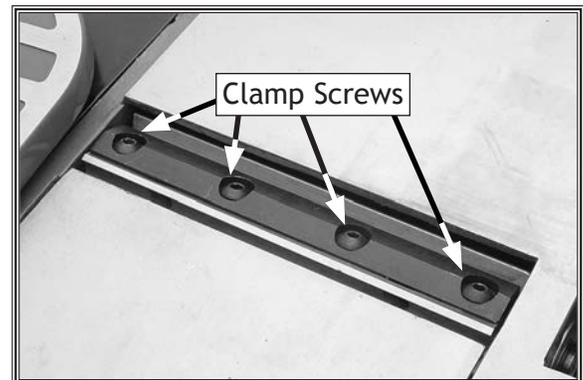

Figure 39. Cutterhead clamp screw location.
7. Move the straightedge to position **B**, as shown in **Figure 39**. Turn the jack screw nearest the guard counterclockwise until the end of the knife touches the straightedge.
3. Remove the cutterhead clamp screws fastening the knife to the cutterhead (see **Figure 39**). Carefully remove the knife and clamp from the cutterhead.